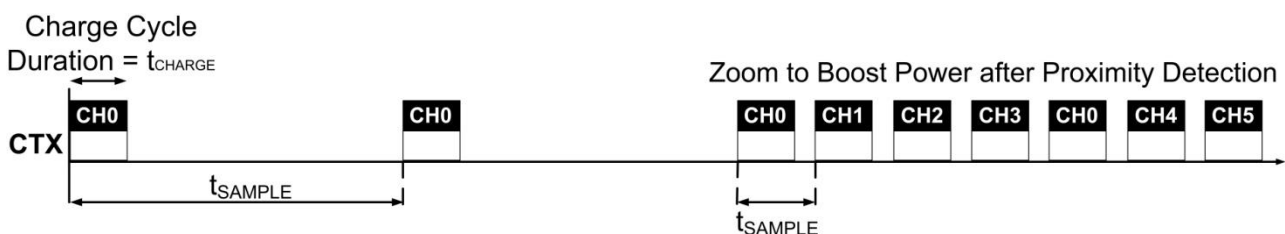

Figure 5.3 IQS259 Charge Cycle Timing ($t_{SAMPLE} = LP_{value} \times 16ms$)
NOTE: While in any power mode the device will zoom to Boost Power (BP) mode whenever the condition $(CS - LTA) > PROX_TH$ or $TOUCH_TH$ holds, indicating a possible proximity or touch event. This improves the response time. The device will remain in BP for t_{ZOOM} and then return to the selected power mode. The Zoom function allows reliable detection of events with current samples being produced at the BP rate. The LP charge cycle timing is illustrated in **Figure 5.3**. The Zoom bit in the **SYSFLAGS** register (0x10, bit0) will be set when BP mode is active.
Adjusting the charge transfer speed will change the charge cycle duration (t_{CHARGE}) as shown in **Figure 5.3**.
During any LP mode, only CH0 (forced enabled) will be consecutively charged every T_{LP} . The LP to BP charge timing is illustrated in **Figure 5.3**.